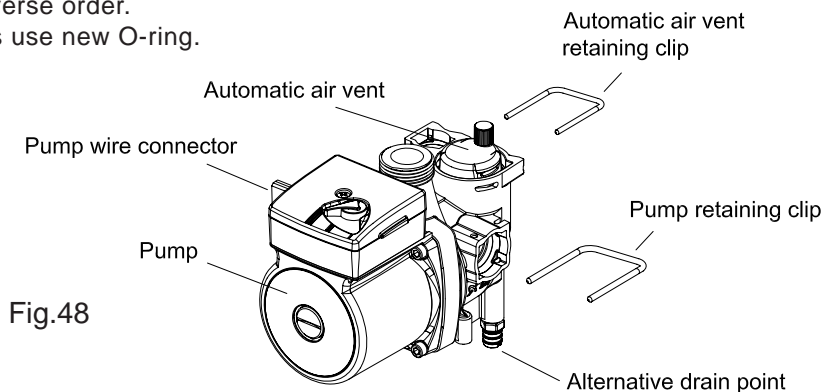

Fig.48
**8.16 TO REMOVE/REPLACE PUMP (Fig.48)**
**8.17 TO REMOVE/REPLACE AUTOMATIC AIR VENT ( Fig. 48)**